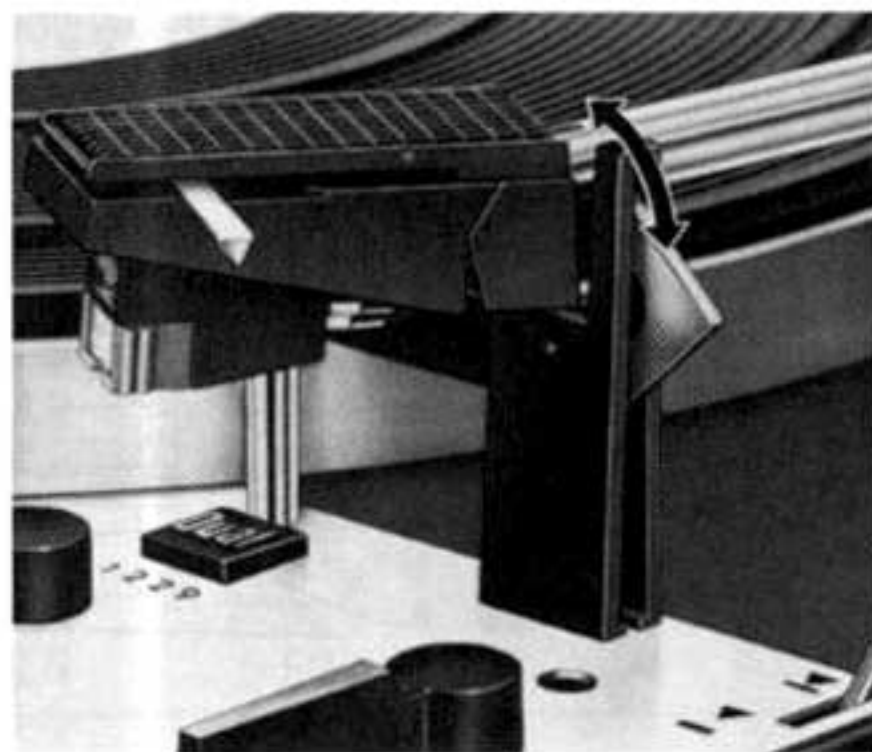

Fig. 7
Select the correct turntable speed ①, set the record-size selector to match the diameter of the record on the turntable (17, 25 or 30 cm, or 7, 10 or 12 inches), and unlock the tonearm (Fig. 7).
Note: At the end of a record, or at the end of the last record of a stack, the return of the tonearm and switch-off are automatic. It is advisable to lock the tonearm in place (Fig. 7) after turning off the system.